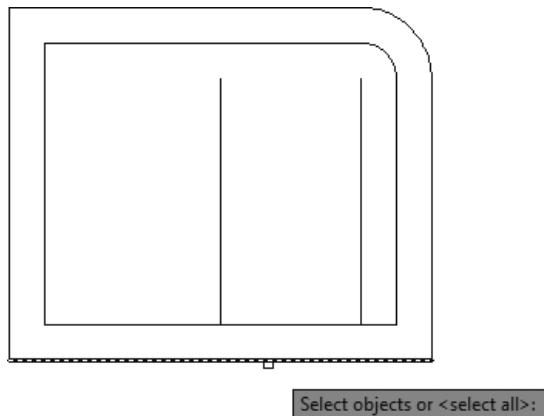

FIGURE 2.31 Selecting a line to be a boundary edge
3. Pick the very bottom horizontal line (see Figure 2.31), and press ↵.